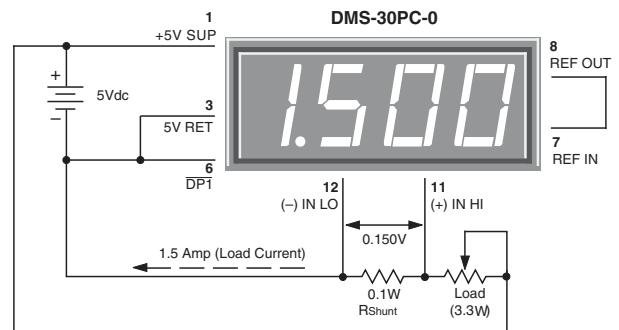

Figure 9. Basic DC Ammeter Circuit
**7. Digital Ammeter:** Digital ammeters are finding ever-increasing usage because analog-style ammeters (moving-vane types) now cost roughly the same as their digital counterparts. Additionally, analog ammeters are not nearly as rugged as modern digital panel voltmeters. Figure 9 illustrates a typical ammeter application. The circuit uses a ±200mV input meter